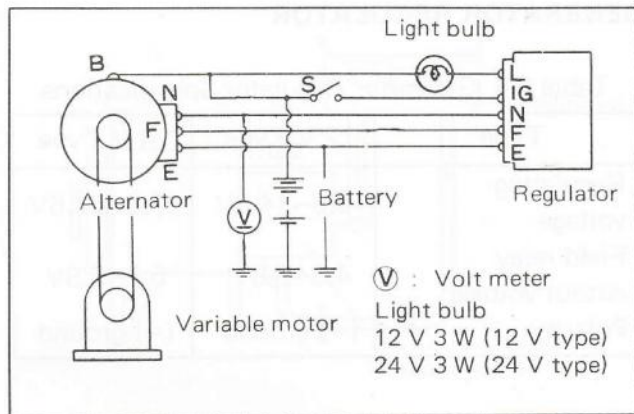

Fig. 6-101 Relay Actuating Voltage
Make the hook up as shown in Fig. 6-101. Close the switch (S) and gradually speed up the alternator. Take the voltage reading (relay actuating voltage) when the light extinguishes. If not within the specified values, correct by bending the adjusting arm.